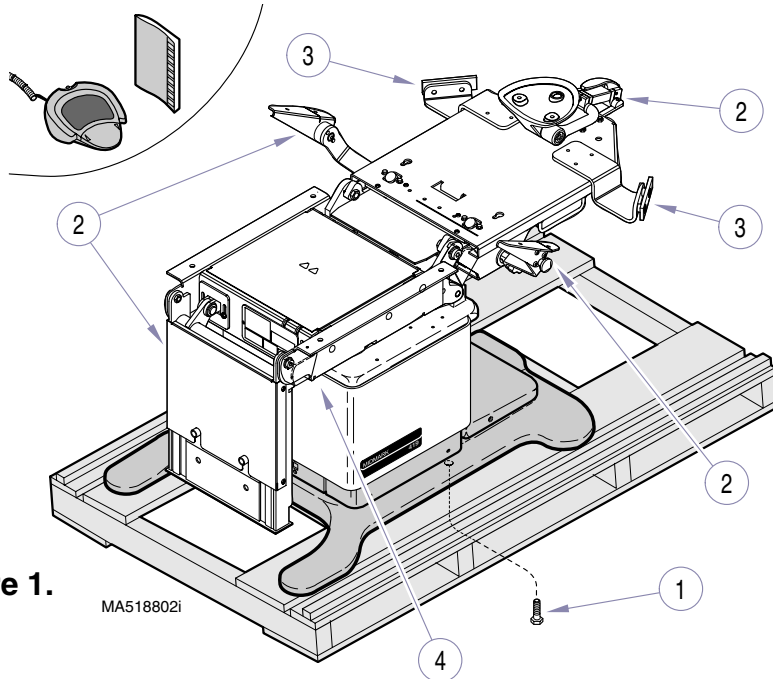

Figure 1.
3. Using 3/4" open end wrench or socket, remove two bolts (1, Figure 1) from underside of table base (one on each side).